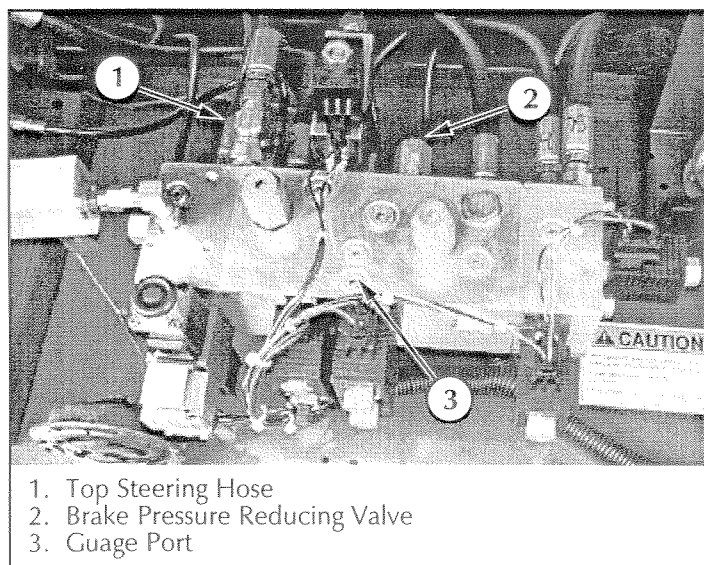

Figure 4-5: Hydraulic Manifold Assembly, Top View
2. Remove the gauge port plug (Figure 4-5) and install quick disconnect gauge assembly.
2. Remove the quick disconnect plug (Figure 4-5) and install a 0-600 psi (0-50 bar) pressure gauge assembly.
BRAKE PRESSURE REDUCING VALVE (Figure 4-5 & 4-6)
2. Remove the gauge port plug (Figure 4-5) and install a 0-3000 psi (0-250 bar) pressure gauge assembly.